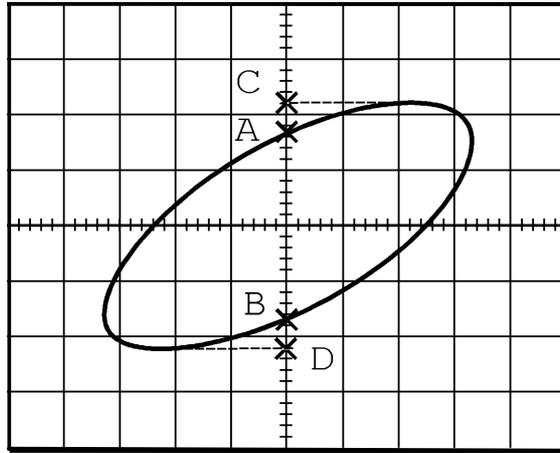

figure 14 : XY mode
- Select the XY display mode (6) or (8).
- Adjust vertical sensitivity (32) and (37) to obtain the image shown in figure 14.